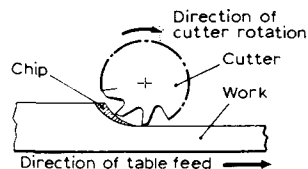

Fig. 27
94. The milling operation shown in Fig. 27 is called